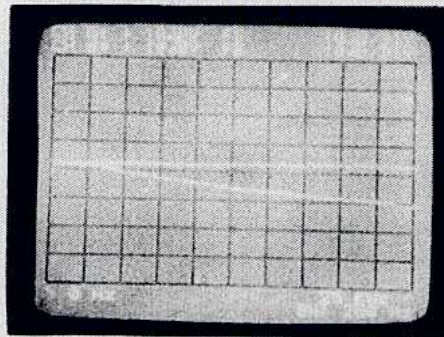

Figure 3-13. Input and Output Spectrum of a Low Pass Filter.
- The input and output of the low pass filter is described by the two traces and should appear similar to Figure 3-13.